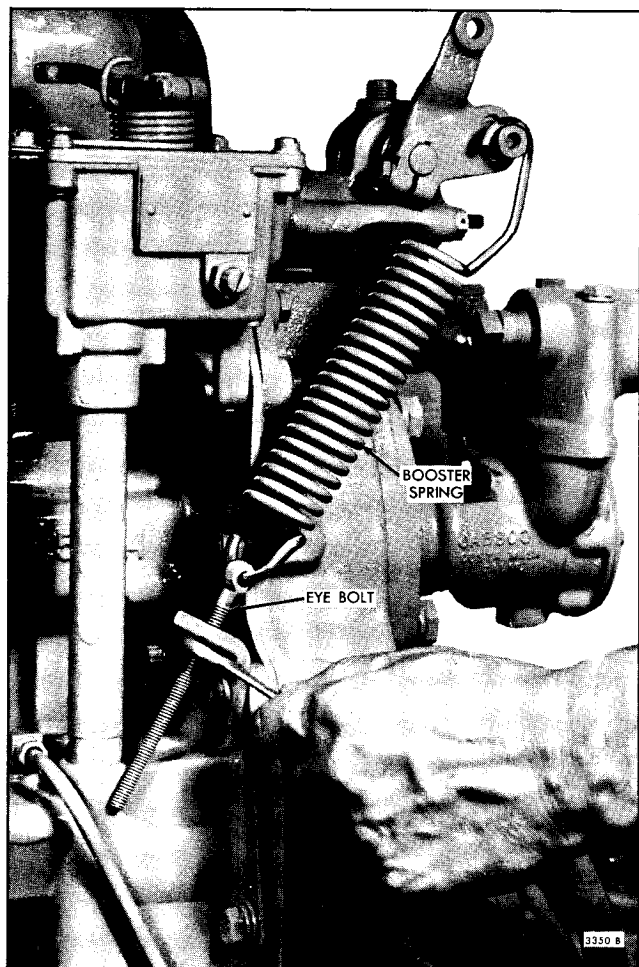

Fig. 5 - Adjusting Booster Spring
1. Refer to Fig. 5 and loosen the booster spring retaining nut on speed control lever. Loosen the nut and lock nut on the eye bolt at the opposite end of the booster spring.